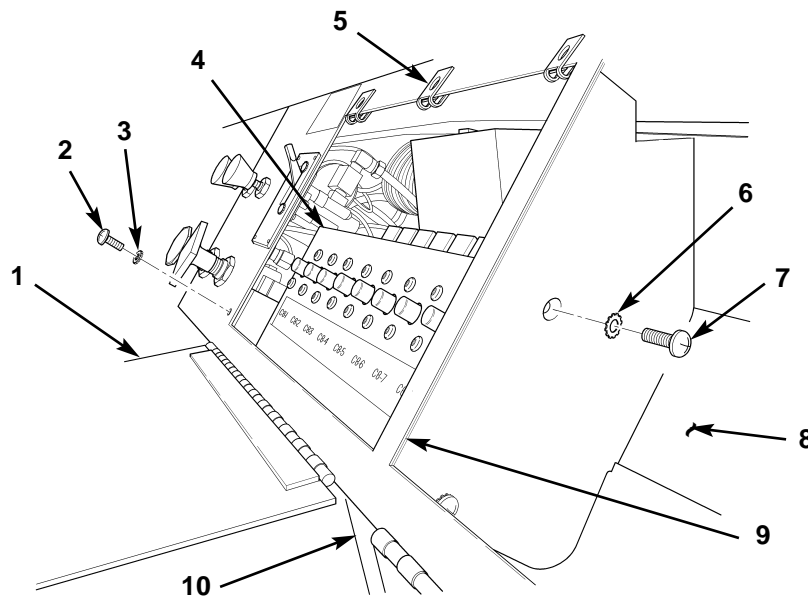

Figure 2. Circuit Breaker Panel.
4. Turn three turnlock fasteners (figure 2, item 5) 90 degrees and hinge open circuit breaker cover (figure 2, item 1).
5. Open glove compartment door (figure 2, item 10) to glove compartment (figure 2, item 8) and remove two screws (figure 2, item 7) and star washers (figure 2, item 6) from dash panel (figure 2, item 9) and circuit breaker panel (figure 2, item 4).
6. Remove screw (figure 2, item 2) and star washer (figure 2, item 3) from dash panel (figure 2, item 9) and circuit breaker panel (figure 2, item 4) and lift circuit breaker panel (figure 2, item 4) out to access wiring.